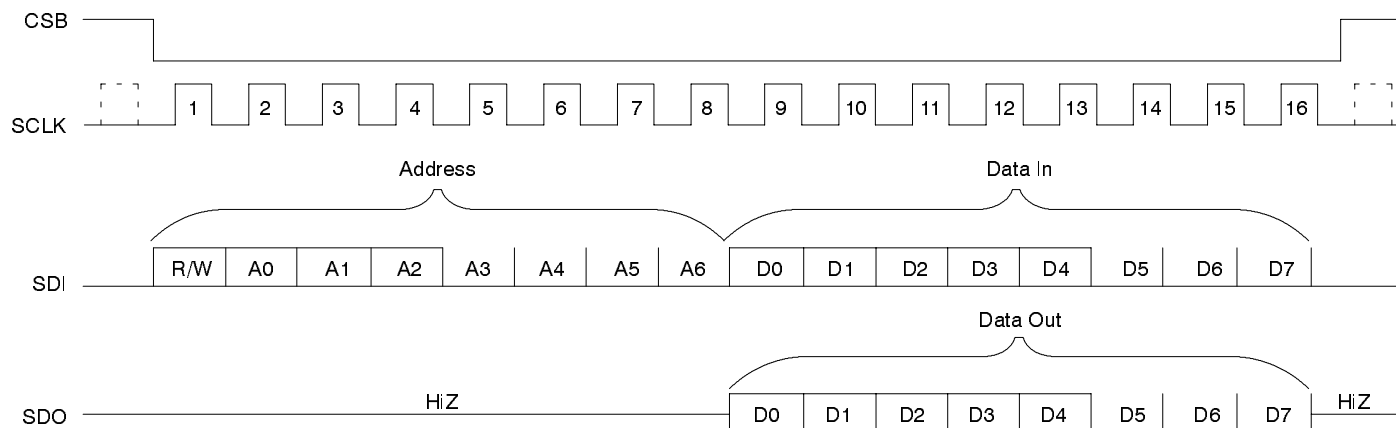

Figure 4. Serial Processor Interface Data Structure
The following instructions, for using the serial interface, are best understood by referring to the diagram in *Figure 4*.
Once the last address bit (A2) has been clocked into the SDI input, the read operation will proceed through an idle period, lasting four SCLK periods. On the falling edge of SCLK Cycle "8" (See *Figure 4*) the serial output signal (SDO) becomes active. At this point the user can begin reading the data contents of the addressed command register (at Address A2, A1, A0) via the SDO pin. The SDO pin will output this five bit data word (D0 through D4) in ascending order, with the LSB first, on the rising edges of the SCLK pin.
Once the last address bit (A2) has been clocked into the SDI input, the write operation will proceed through an idle period, lasting four SCLK periods. Prior to the rising edge of SCLK Cycle #9 (See *Figure 4*) the user must begin to apply the eight-bit data word, that he/she wishes to write to the serial input interface onto the SDI input pin. The microprocessor serial interface will catch the value on the SDI pin on the rising edge of the SCLK. The user must apply this word (D0 through D7), serially, in ascending order with the LSB first.
2. Each Read or Write operation, with the Serial Interface, will require 16 SCLK periods, as depicted in *Figure 4*.